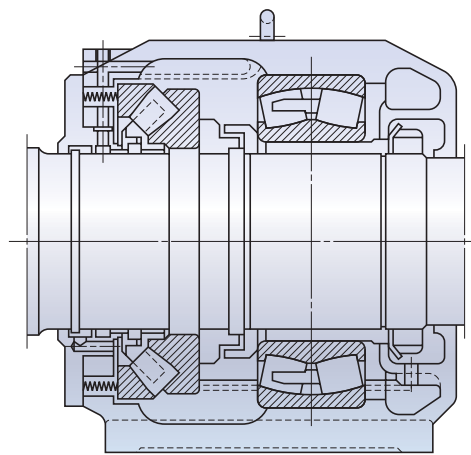

Fig. 19 Preload of thrust roller bearings (by spring)
easier and may provide better results. This preloading method can apply not only to thrust ball bearings, but also to thrust roller bearings, as shown in Fig. 19. When the balls in thrust ball bearings rotate at relatively high speeds, sliding due to gyroscopic moments on the balls may occur. The larger of the two values obtained from equations (13) and (14) below should be adopted as the minimum axial load in order to prevent such sliding.